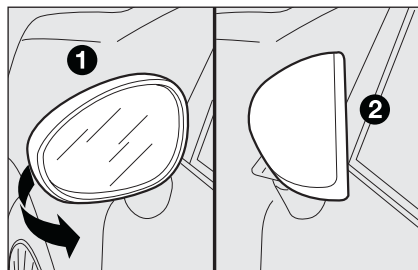

fig. 34
When required (for example when the mirror causes difficulty in narrow spaces) it is possible to fold the mirror moving it from position **1**-fig. 34 to position **2**.
**When driving the mirrors shall always be in position 1-fig. 34.**